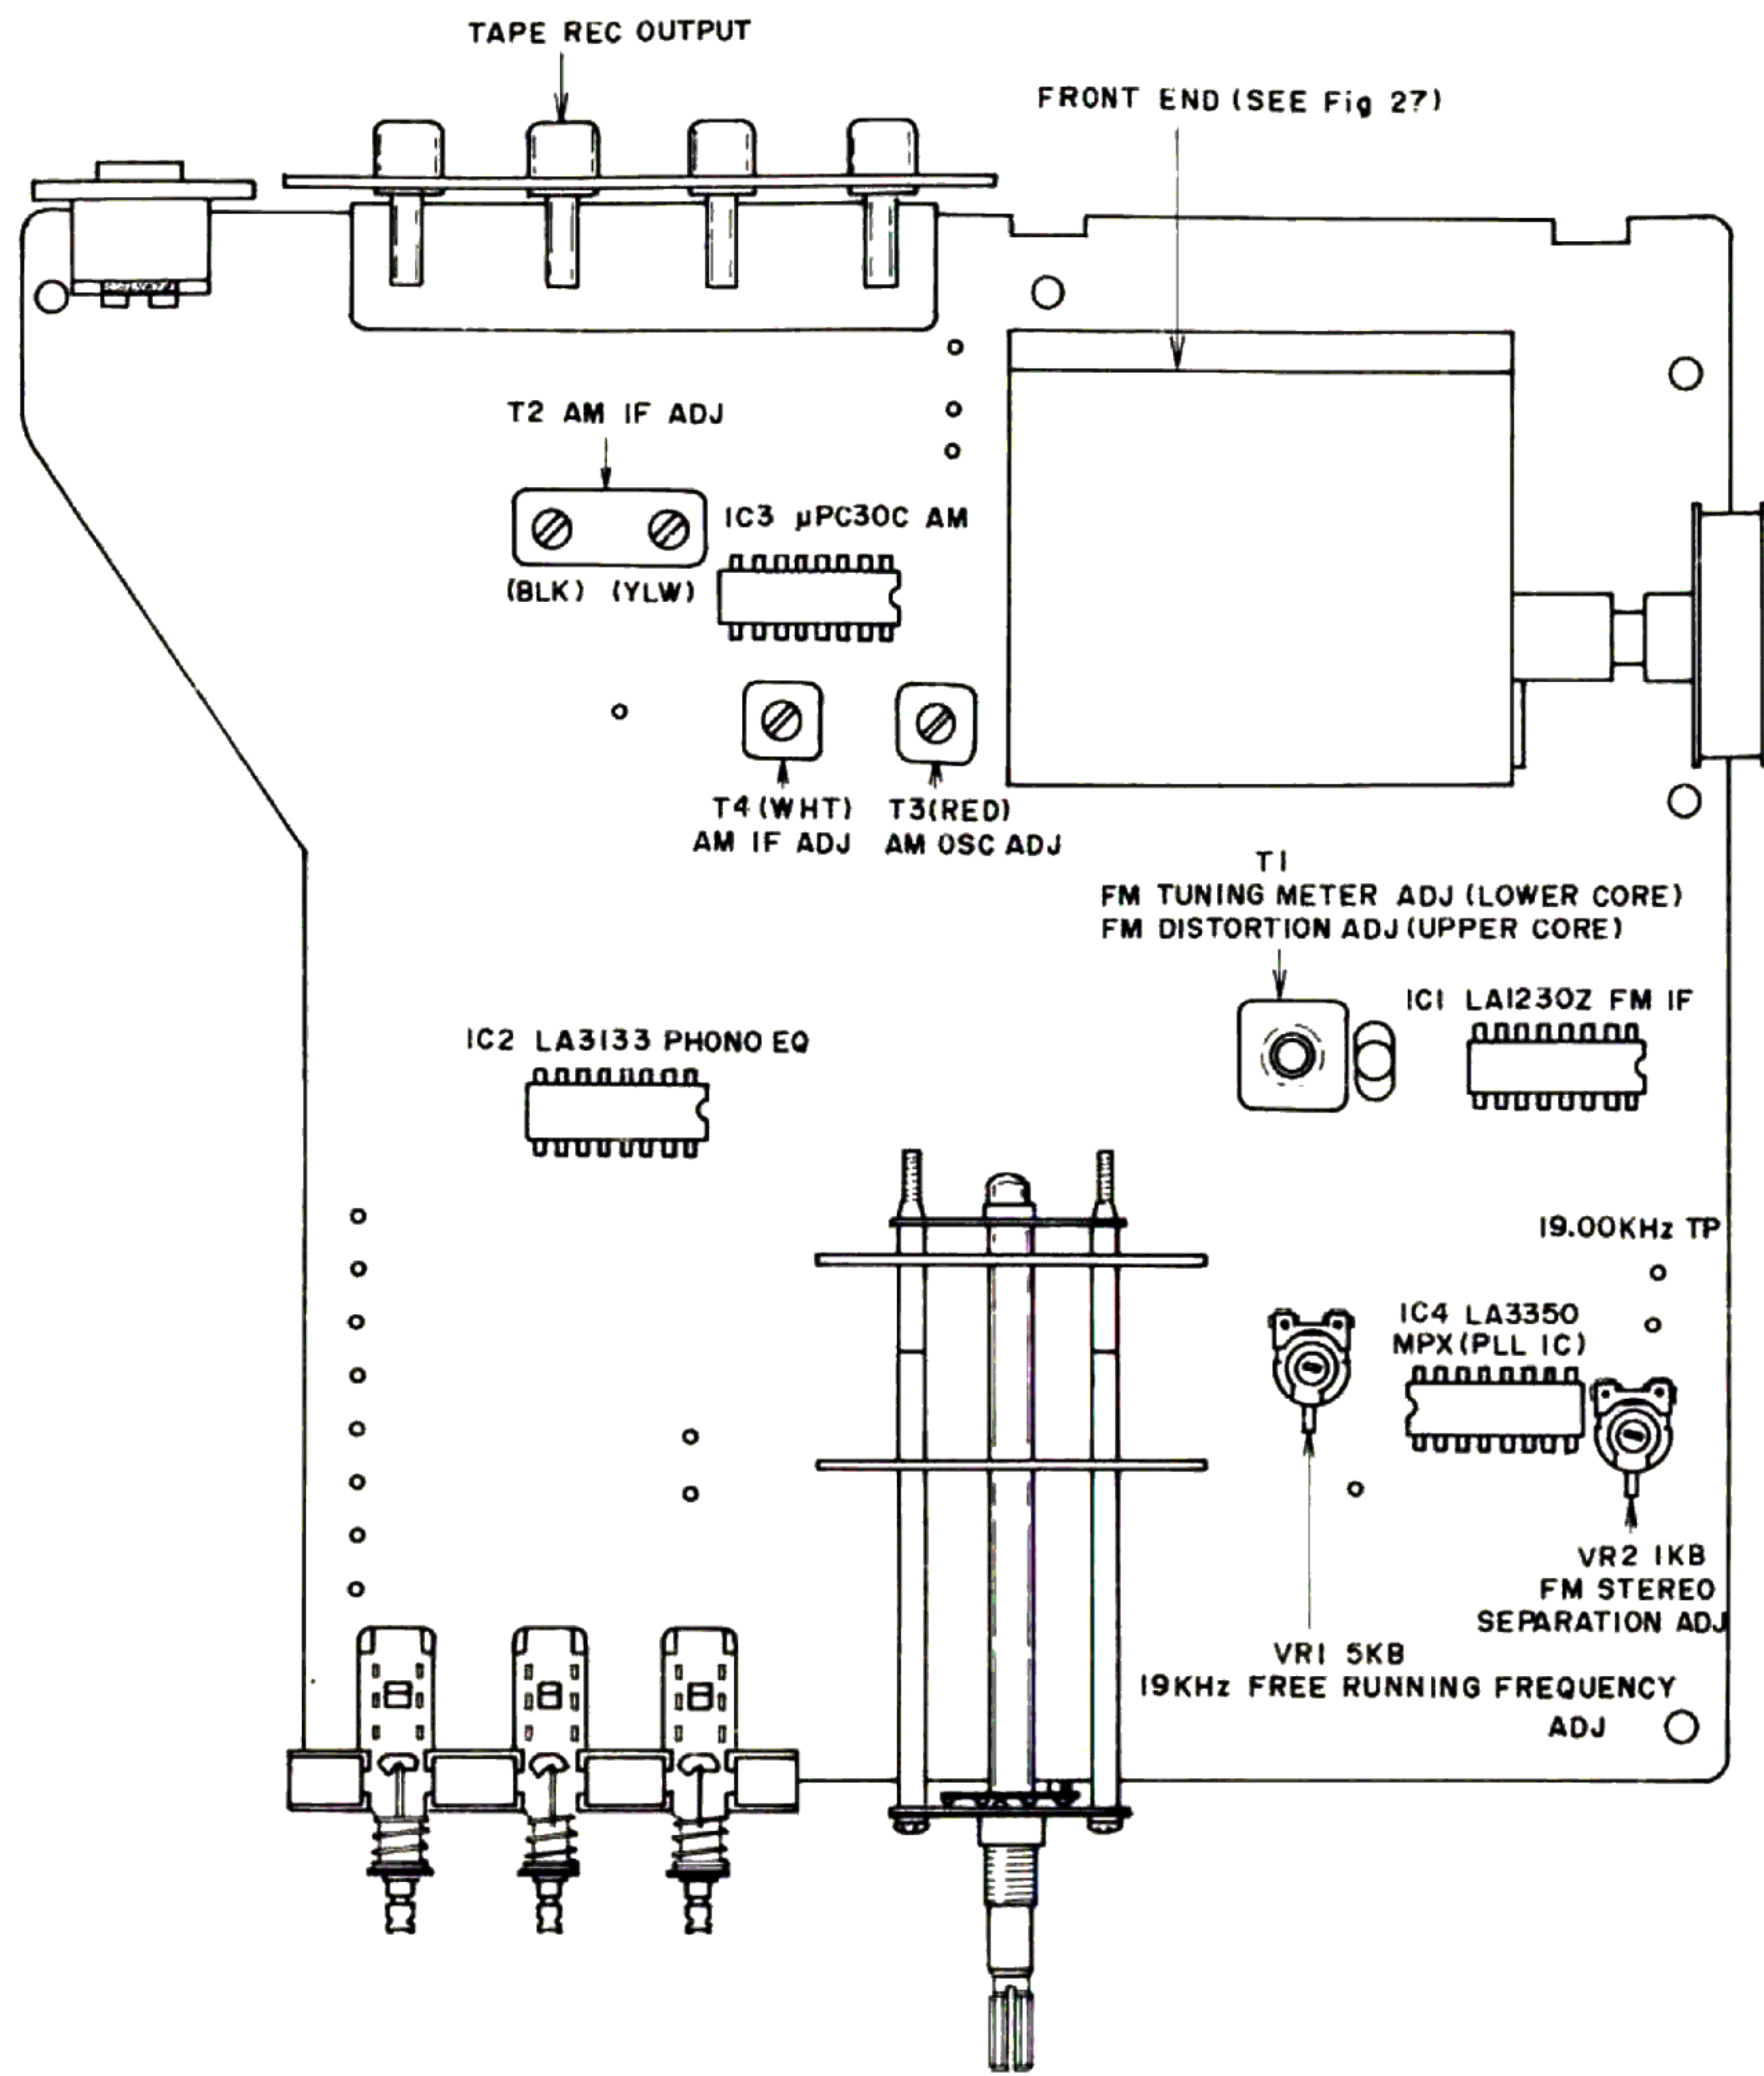

Fig. 26 Multi Function P.C Board AA-5105
a. FM Tuner Section Adjustment (Refer to Figs. 26, 27, 28)
b. AM Tuner Section Adjustment (Refer to Figs. 26, 27, 29)